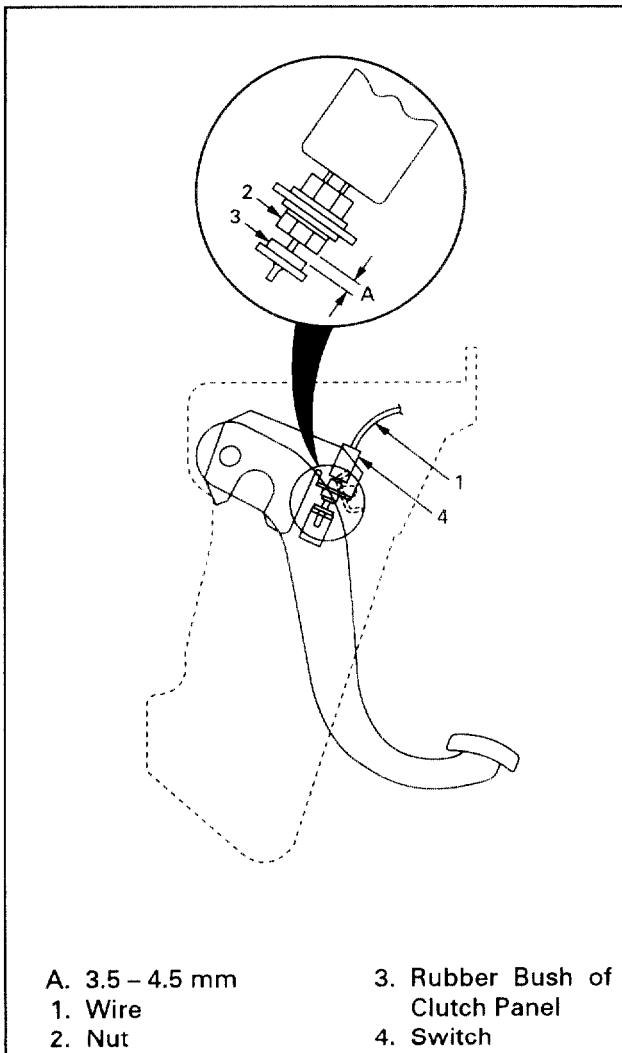

Figure 5 - Clutch Pedal Switch
### ↔ Remove or Disconnect (Figure 5)
### → Install or Connect (Figure 5)
- Clutch pedal switch to obtain dimension "A" (figure 5).
3. Wires (1).